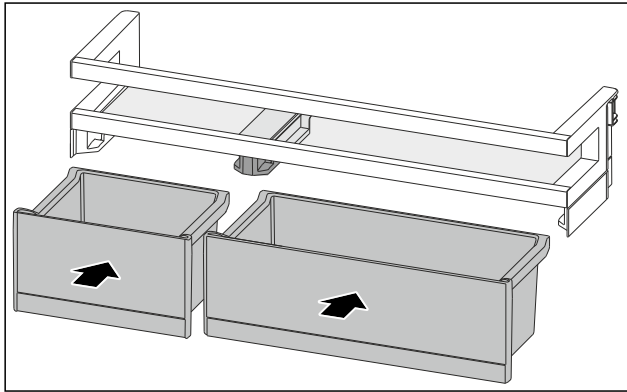

Fig. 82
- Insert the VarioBoxes opposite order. (see Fig. 82)